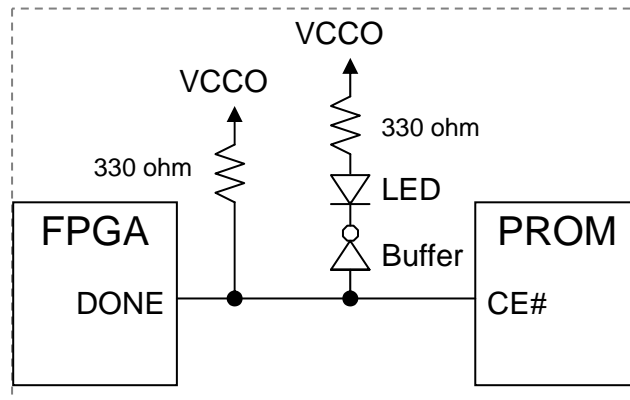
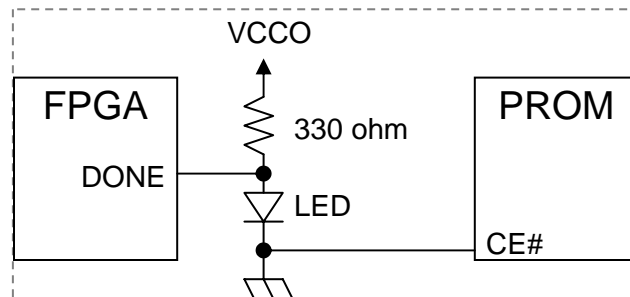

Figure 2 (LED with Buffer Circuit)
Figure 3 (Un-Buffered LED)
2. When using FPGA DONE to drive PROM CE# (to reduce standby power), make sure that the signal is within the specification and has a fast rise and fall time. Use an external buffer to drive any LED (Figure 2). If DONE is not used to drive CE#, it can be connected to an LED (Figure 3).